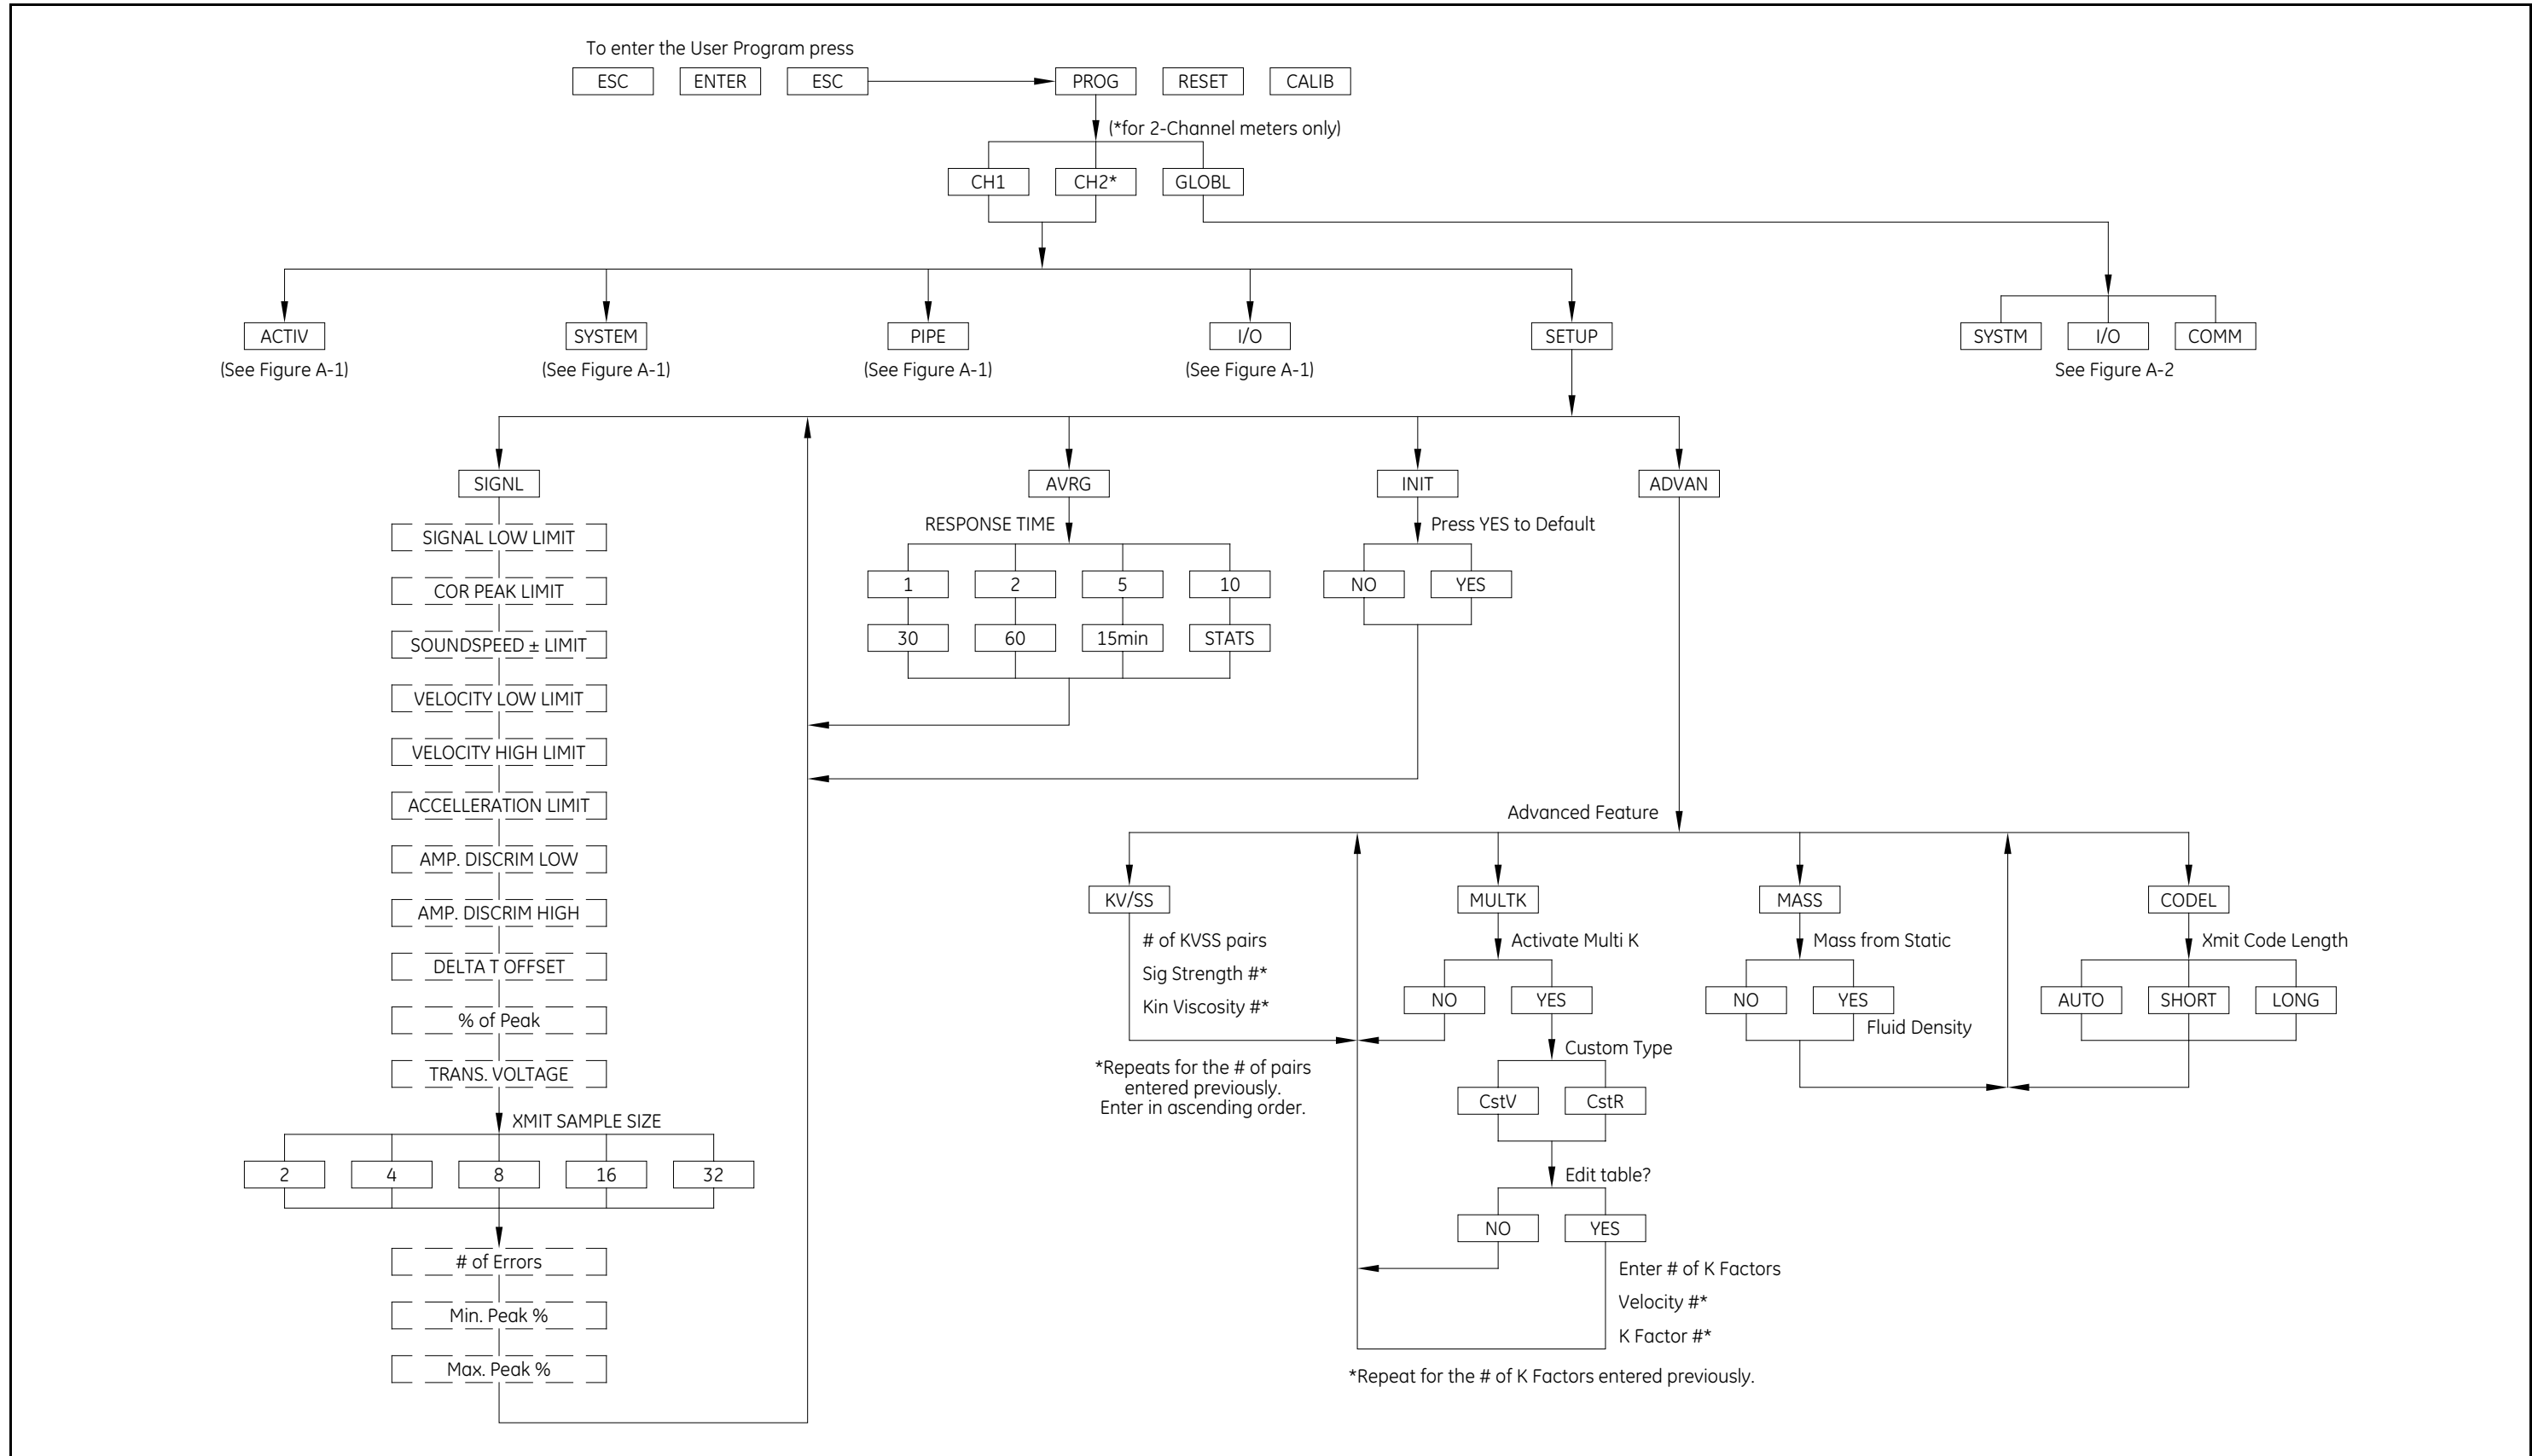

Figure 11: The CHx>SETUP Menu Map
- Figure 11, "The CHx>SETUP Menu Map," on page 87